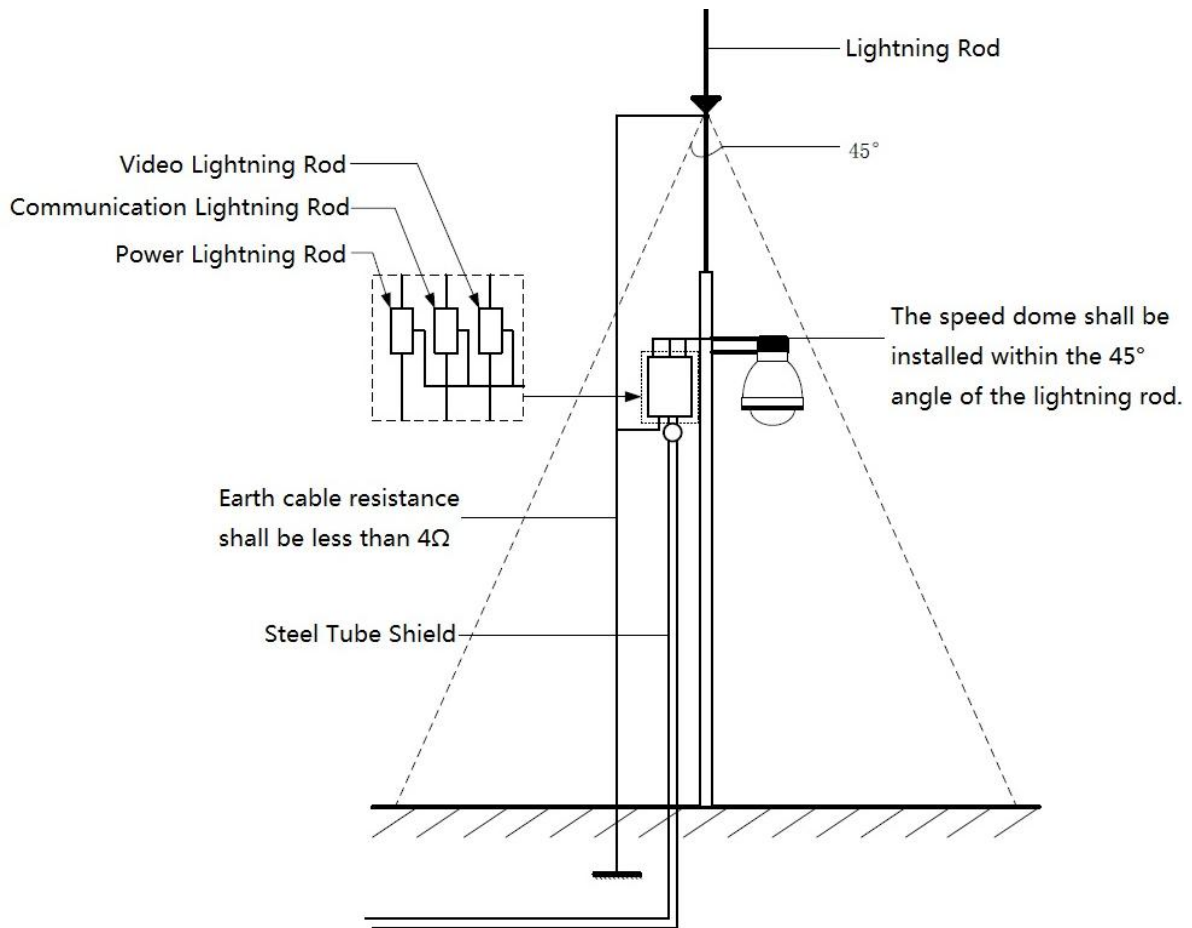

Figure 5-1
- System shall adopt equal-potential wiring. The earth device shall meet anti-jamming and at the same time conforms to your local electrical safety code. The earth device shall not short circuit to N (neutral) line of high voltage power grid or mixed with other wires. When connect the system to the earth alone, the earth resistance shall not be more than 4Ω and earth cable cross-sectional area shall below 25 mm^2 . See Figure 5-1.